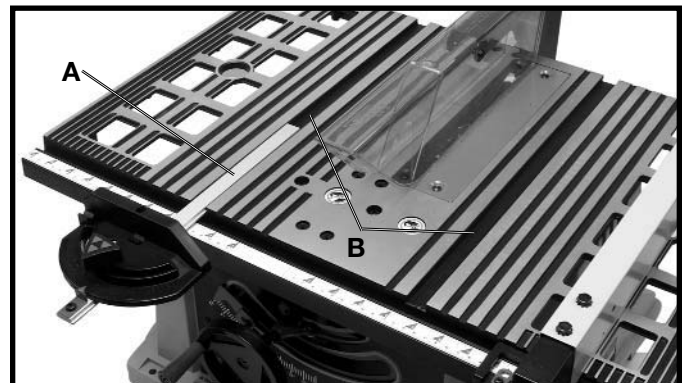

Fig. 18
The miter gage is shipped completely assembled and is supplied with a T-slot bar (A) Fig. 18, that is inserted into either one of the two T-slotted miter gage grooves (B) located in the table top, as shown. The T-slot miter gage prevents the miter gage from falling when it is extended out beyond the front of the table when cross-cutting extra wide workpieces.